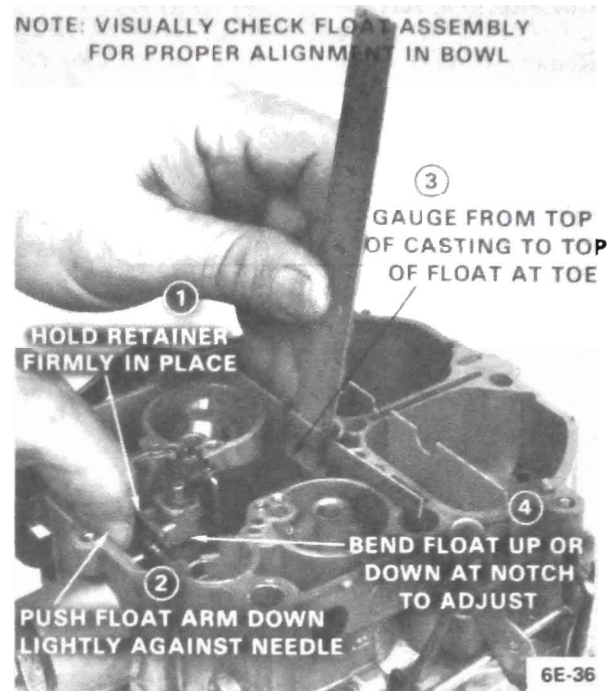

Figure 6E-36 Float Level Adjustment
a. With adjustable "T" scale, measure from the top of float bowl gasket surface (gasket removed) to top of float at toe (locating gauge 1/16 back from radius at toe). See Figure 6E-36.